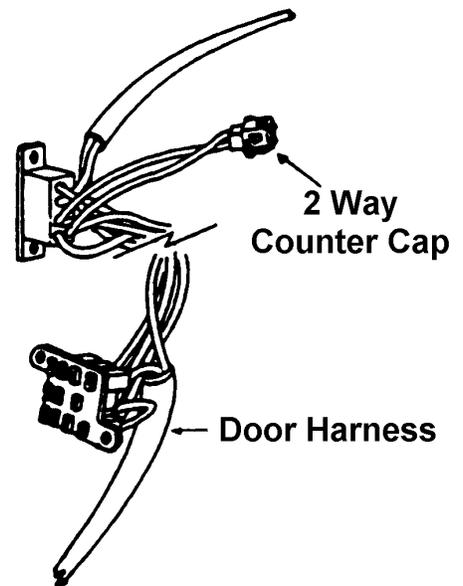

Figure 5
17. Locate the 2-way counter cap on the main door. See figure 5.